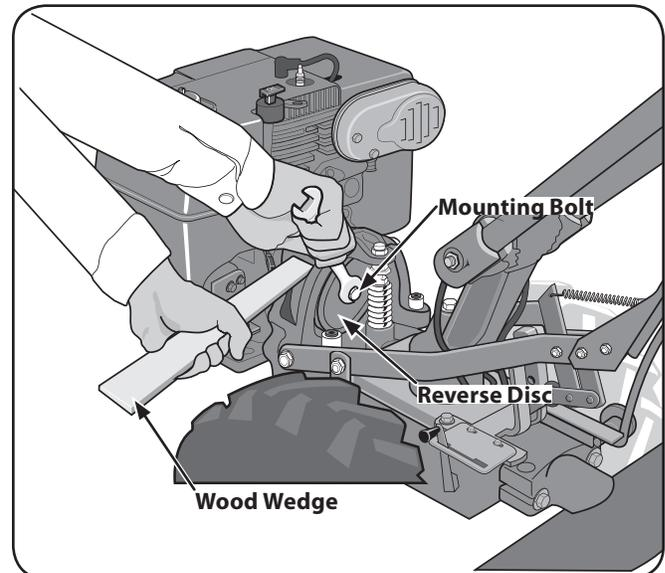

Figure 7-6
3. Use a  $\frac{5}{16}$ " wrench to loosen the mounting bolt shown in Fig. 7-6. Remember to immobilize the pulley with the wood wedge while loosening the bolt. If necessary, pry the disc from the pulley with the tip of a screwdriver. Back the bolt out as far as possible. Then angle the disc a little to remove it. Bring the bolt and lockwasher along with the disc. Installing a new Reverse Disc.